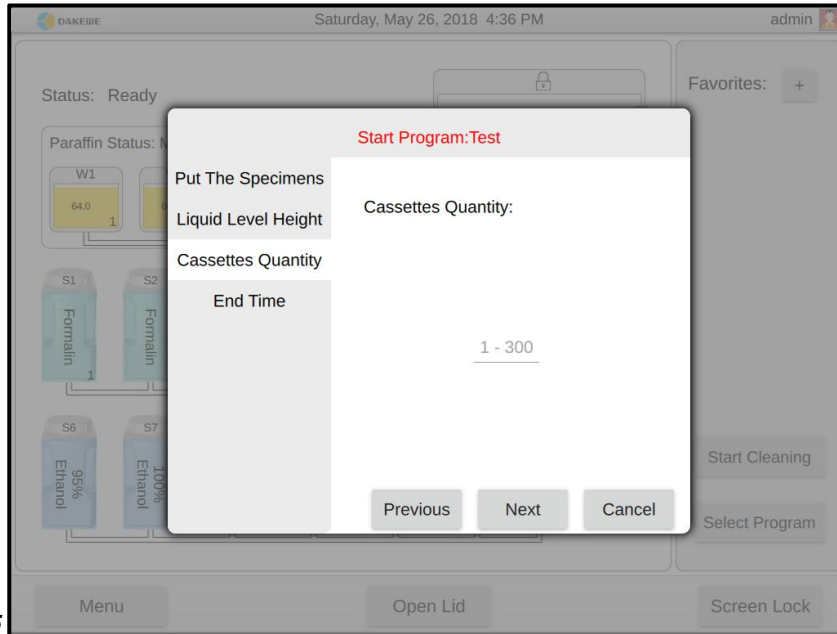

Figure 75
- Enter the number of cassettes, 0-300. After completion, click “Next” (Figure 75).